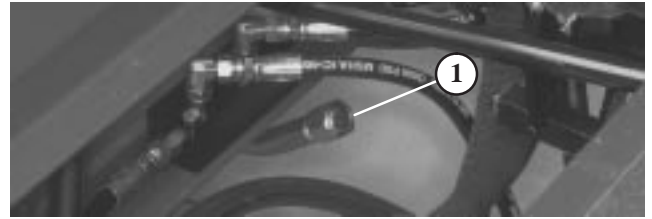

Figure 19
3. Unscrew dipstick cap from the transmission filler neck (Fig. 19) and wipe it with a clean rag. Screw dipstick into filler neck. Remove the dipstick and check level of oil. If level is not within 1/2 inch from the groove in the dipstick, add enough oil to raise level to groove mark. **Do not overfill** by more than 1/4 inch above groove.